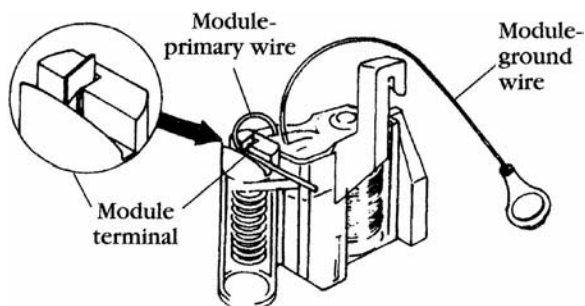

FIG. 3-21. A clip-and-spring assembly connects primary wires to the trigger module. Briggs & Stratton Corp.
10. The installation kit includes a small coil spring and a T-shaped retainer with a hook on the end. Slip the spring over the long arm of the T, so that it shoulders on the cross bar (Fig. 3-21). Place the retainer—hook first—into the recess on the side of the module.